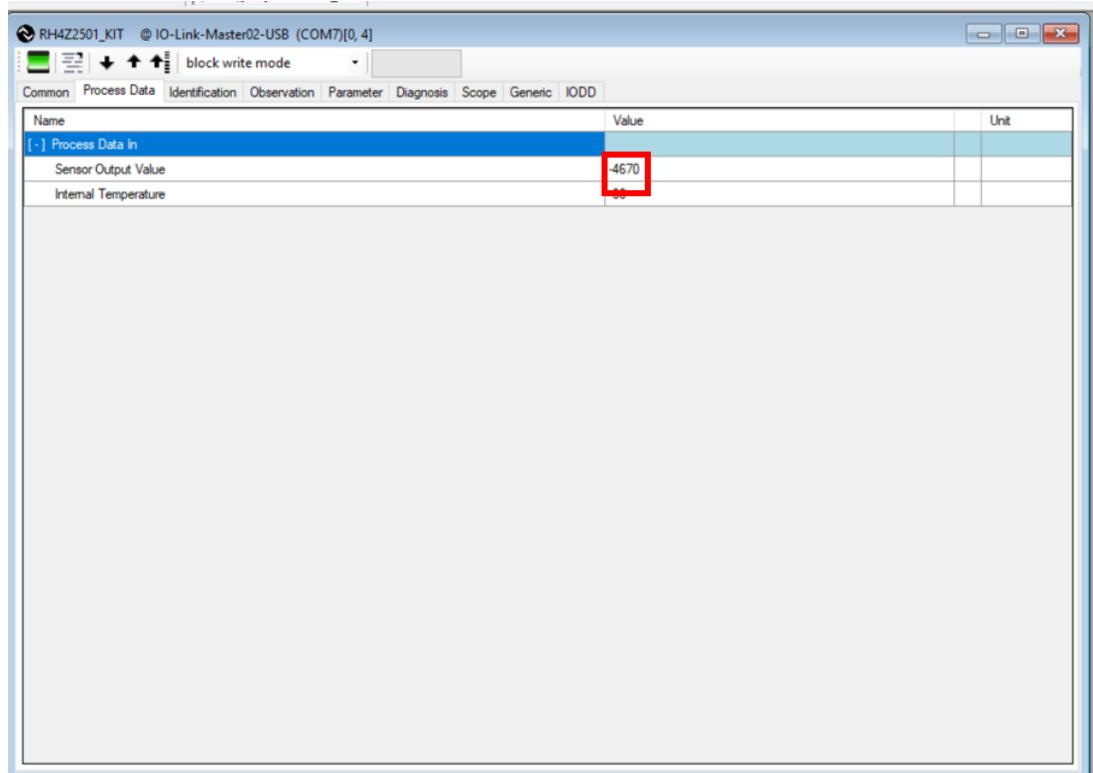

Figure 8. Reading Data Values
- Select the necessary values, see Figure 8.